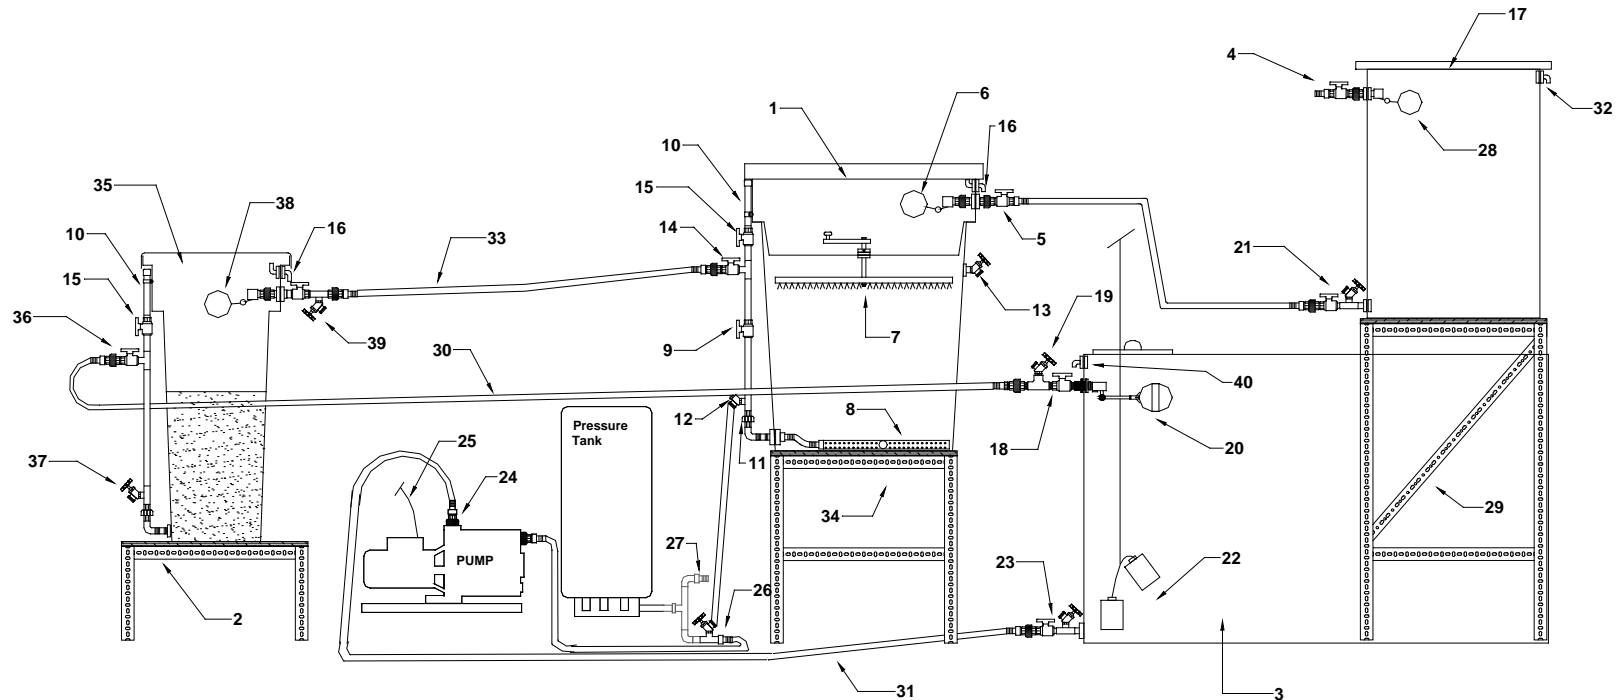

Figure 1 - Automated System Layout - BioSand Filter and GA Carbon Water Filter
- Refer to Figure 1 to find the locations for all system components.
Step 1. Position the BioSand filter stand and GA Carbon water filter stand as shown in figure 1. Place the BioSand filter and GA Carbon water filter on the respective stands.